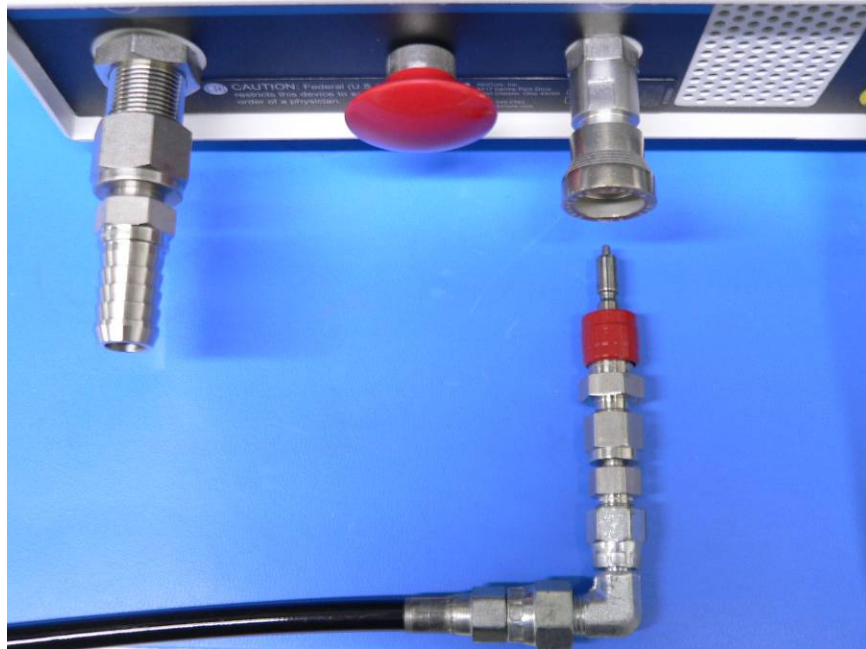

Figure 8 – Aligning the N₂O gas line quick connect to the ACM N₂O inlet port
- To disconnect the N₂O gas line connector from the ACM, slide back on the N₂O inlet port connector sleeve and remove. See Figure 8.